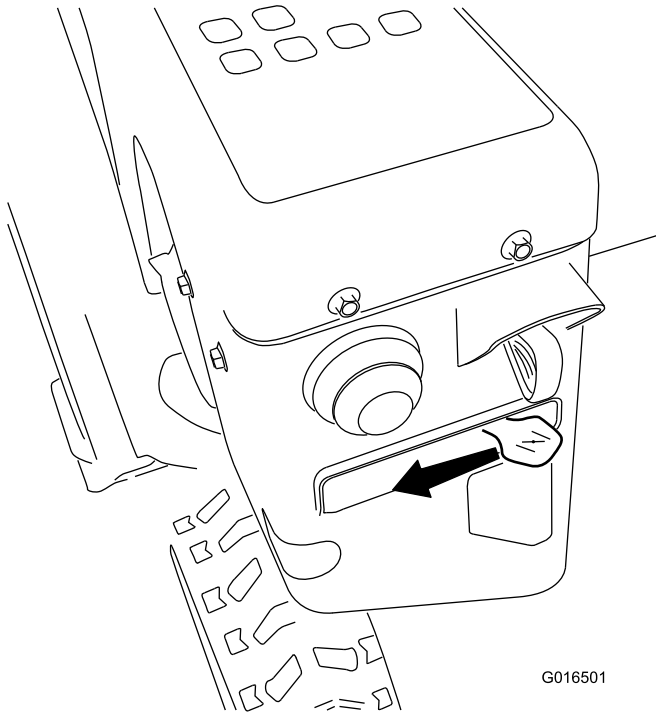

Figure 29
5. Move the choke to the CHOKE position (Figure 29).